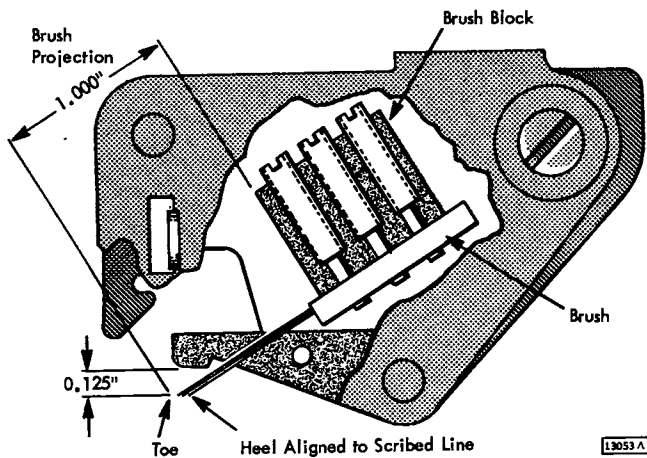

Figure 4-34. Carriage Tape Brush Alignment
1. Insert brushes, p/n 2243026, so that the tips of all brushes project 1" from the brush holder (Figure 4-34).